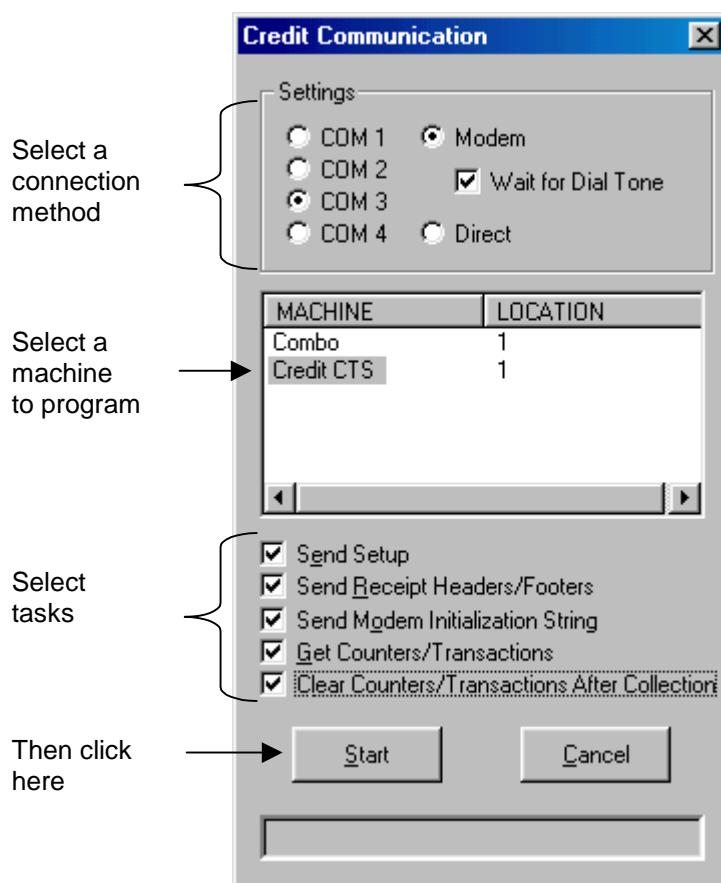

Figure 10.13 Connecting to the Credit CTS
2. Select method of connecting to the Credit CTS (Figure 10.13):
3. Select the Machine to program (Figure 10.13).
4. Select those functions to activate during the connection (Figure 10.13).
5. Click the Start button (Figure 10.13).